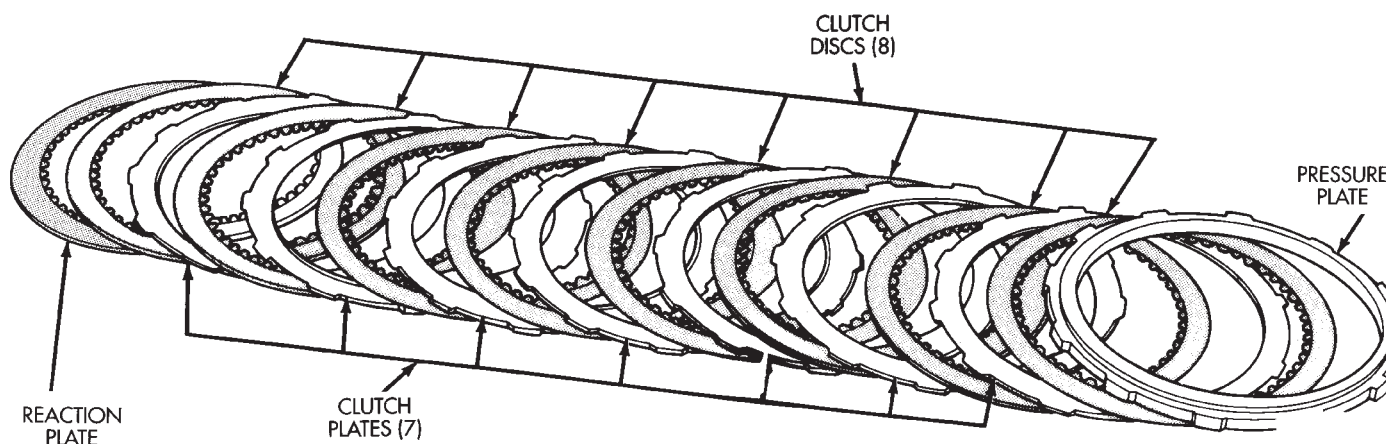

Fig. 338 Direct Clutch Pack Components
(19) Assemble direct clutch pack for installation on hub (Fig. 338).
(b) Alternately install remaining clutch discs and steel plates until required number are installed (Fig. 338). The clutch requires 8 discs and 7 steel plates.